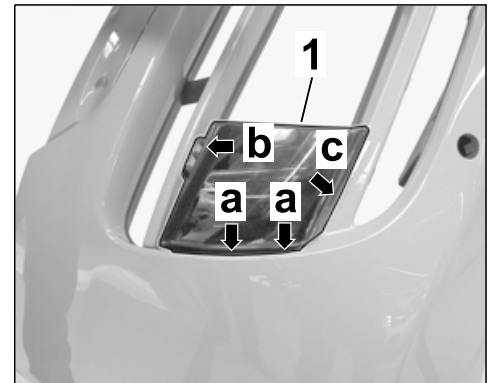

Figure 22
- 5.6 Clip cover for air guide at the right/left-hand side $\Rightarrow$ *Figure 22 -1-* into the front apron in the sequence **a, b and c**.